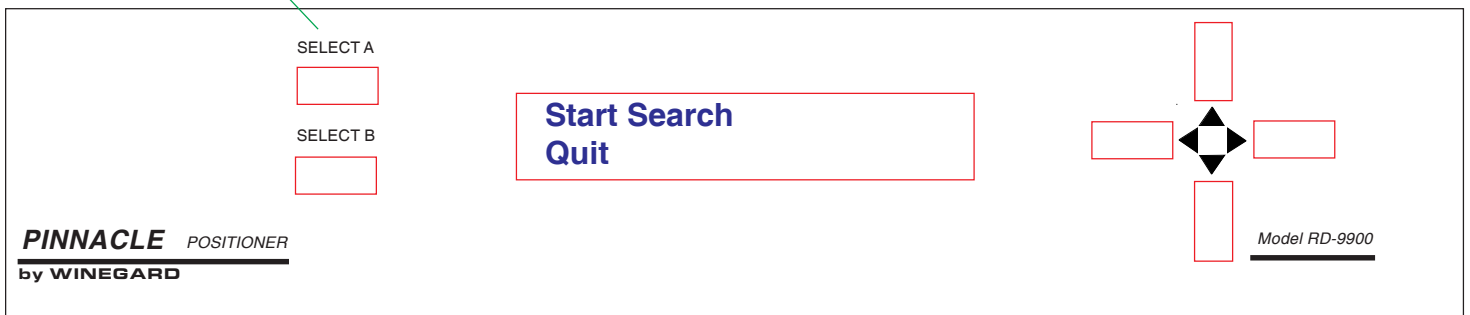

Figure 4
- Press **[SELECT A] Start Search**, Figure 4. This will begin the search for satellite operation. If you selected the wrong city press **[SELECT B] Quit**, this will return you to step 3. Repeat 3 through 7 to select the correct city.